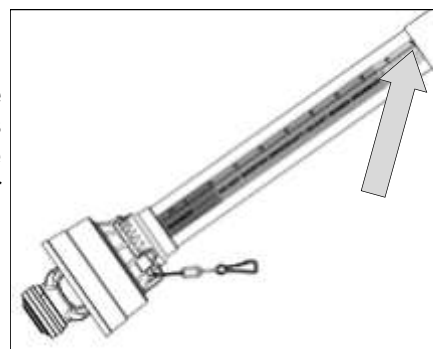

Fig. 27
3. There is a long green, red and yellow label on the inner tube of the driveshaft safety shield (Fig. 27). Turn the cover tubes until this is on top. It has centimetre marks on it. Note the measurement on the driveshaft label where the outer cover overlaps the label.